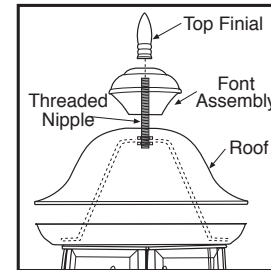

Figure 3
- For harp assembly roofs, unscrew top finial to remove font assembly and roof from threaded nipple. Insert bulbs. Reattach roof, font assembly and top finial. (see figure 3)